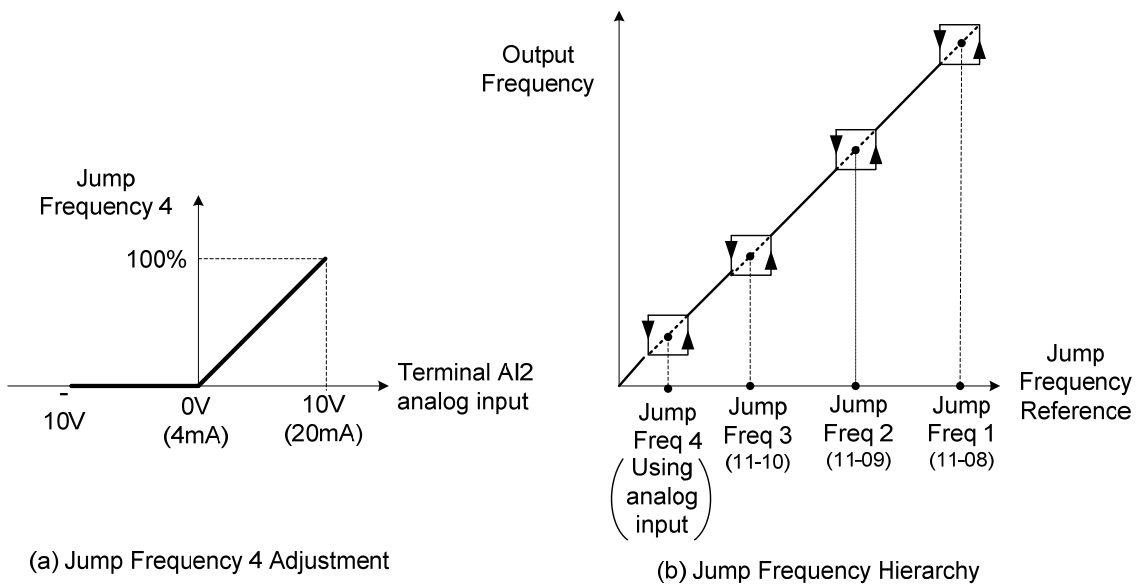

Figure 4.3.48 Jump frequency 4 Setting Operation
(10) Jump frequency 4 (Setting = 9)
- . When 11-08 to 11-10 are set to 0.0Hz, the Jump frequency function is turned off. Refer to the following figure 4.3.48.